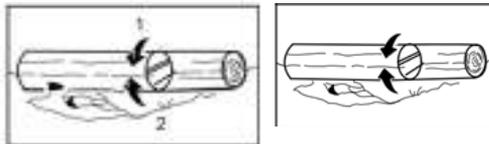

FIG. 6
- First cut from above for 1/3 of the trunk and then from the bottom up until the previous cut has been reached. (Fig.6).